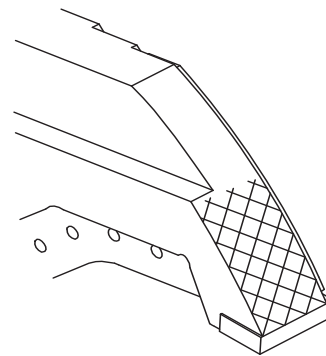

FIGURE 7-43
7. To hardsurface this area, beginning above the piercing tip to approximately half way up the front of the upper shear, apply single passes of AWS E7018 build up in a diamond pattern of approximately 1 1/2" (38 mm) to establish the hardsurface pattern (see Figure 7-43). This will serve as an underlayment for the hardsurface rod. **DO NOT** apply hardsurface directly to the parent material. Apply a bead of Amalloy 814H rod or equivalent on top of each of the underlayment beads. It is important to use an air operated slag peener on each pass of weld to relieve stress.